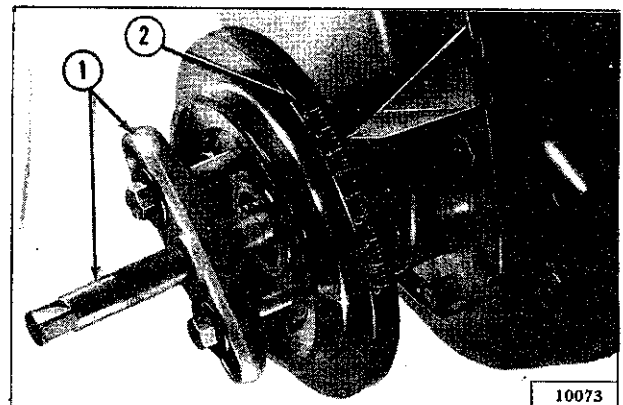

FIG. 24—REMOVING VIBRATION DAMPER
- b. Install a vibration damper puller in the manner shown in Fig. 24.